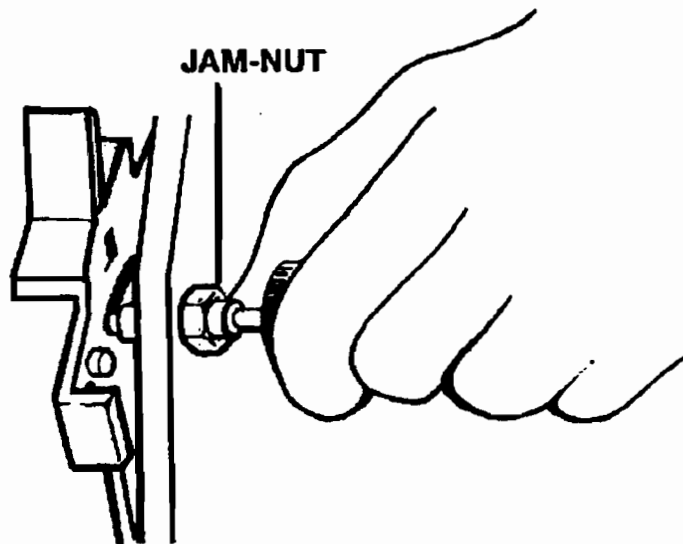

Figure 16. Spring Plunger Assembly
- c. Thread the new plunger assembly into the same hole in the casting (Figure 16). Do not tighten yet.